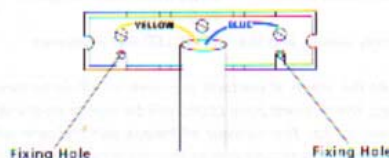

Fig. 14. Individual Contact Wiring
1. If single contacts are to be fitted to a zone, strip back 5mm of each core, then connect the yellow and blue alarm wires to the appropriate contact terminals, as shown in Fig. 14. The remaining spare wires from the cable should be trimmed and tucked away.